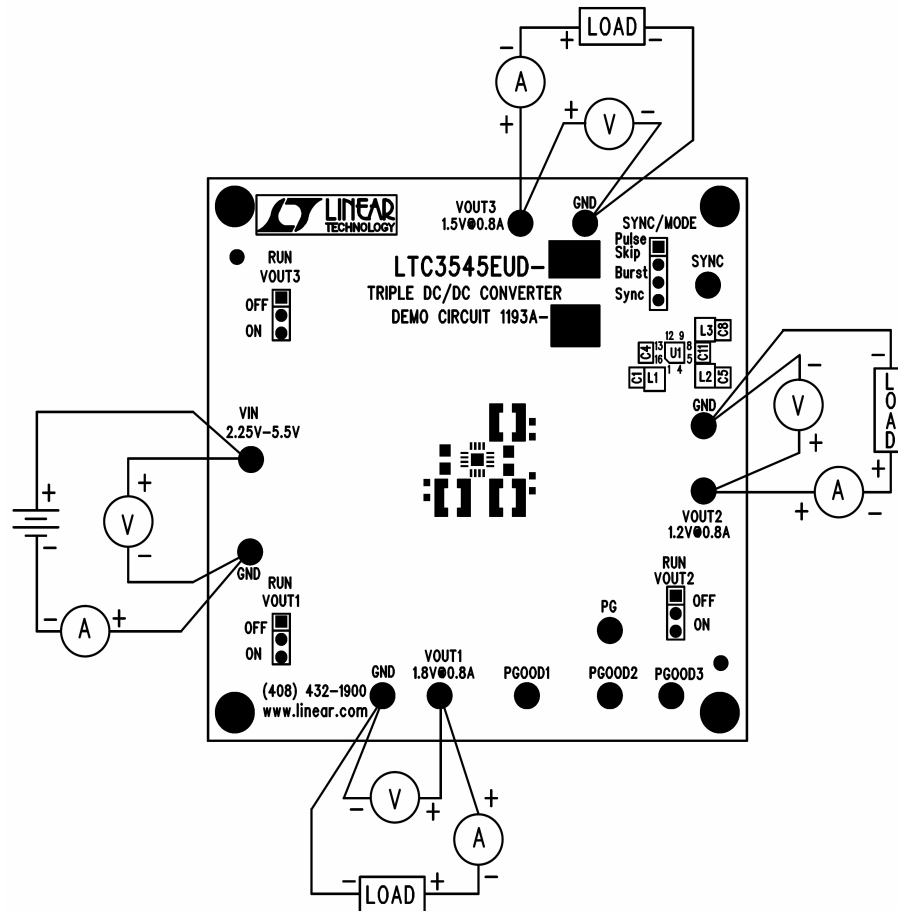

Figure 1. Proper Measurement Equipment Setup
Demonstration Circuit 1193 is easy to set up to evaluate the performance of the LTC3545/-1. For proper measurement equipment configuration, set up the circuit according to the diagram in Figure 1.
1. Connect the input power supply to the VIN and GND terminals. Connect the loads between the matching VOUT and GND terminals. Refer to Figure 1 for the proper measurement equipment setup. Make sure that loads on outputs VOUT1 to VOUT3 do not exceed 800mA, on each output (all three outputs can be loaded at the same time)